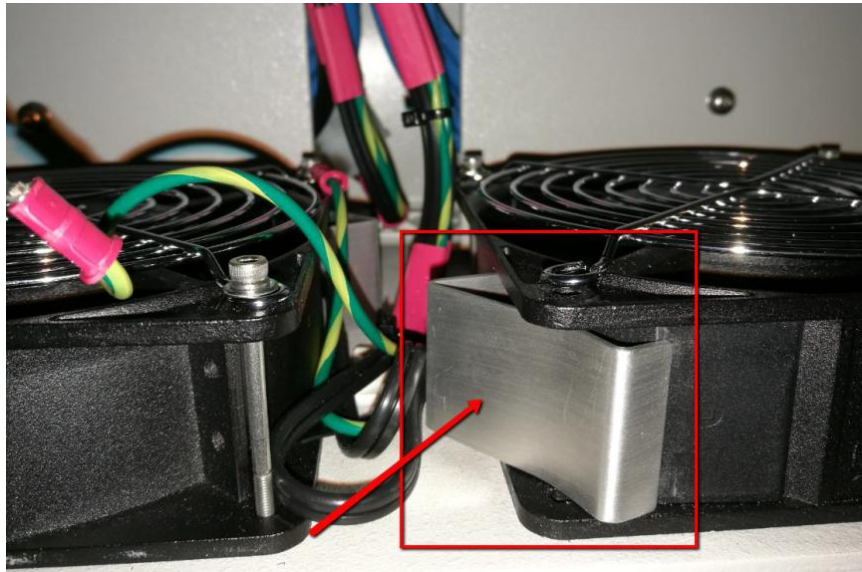

Figure 7 Metal frame assembly
3. Plug Power Cable as shown in Figure 7.
4. Assemble Metal Frame as shown in Figure 7.